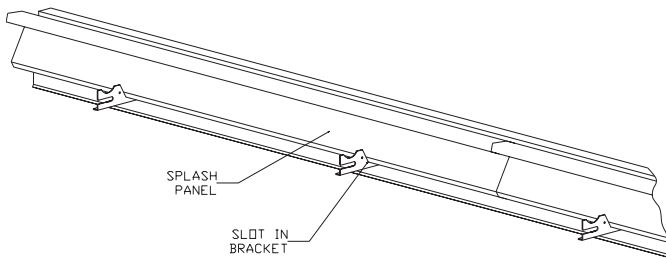

Figure 11
3. Install the splash panels as shown in Figure 11 by starting at the drain end and placing the first splash panel into the slots of the pipe holder brackets. The end of the first splash panel should line up with the inside of the gutter end cap. Install the remaining splash panels in the same fashion and overlap the ends of the splash panels by 1 inch.